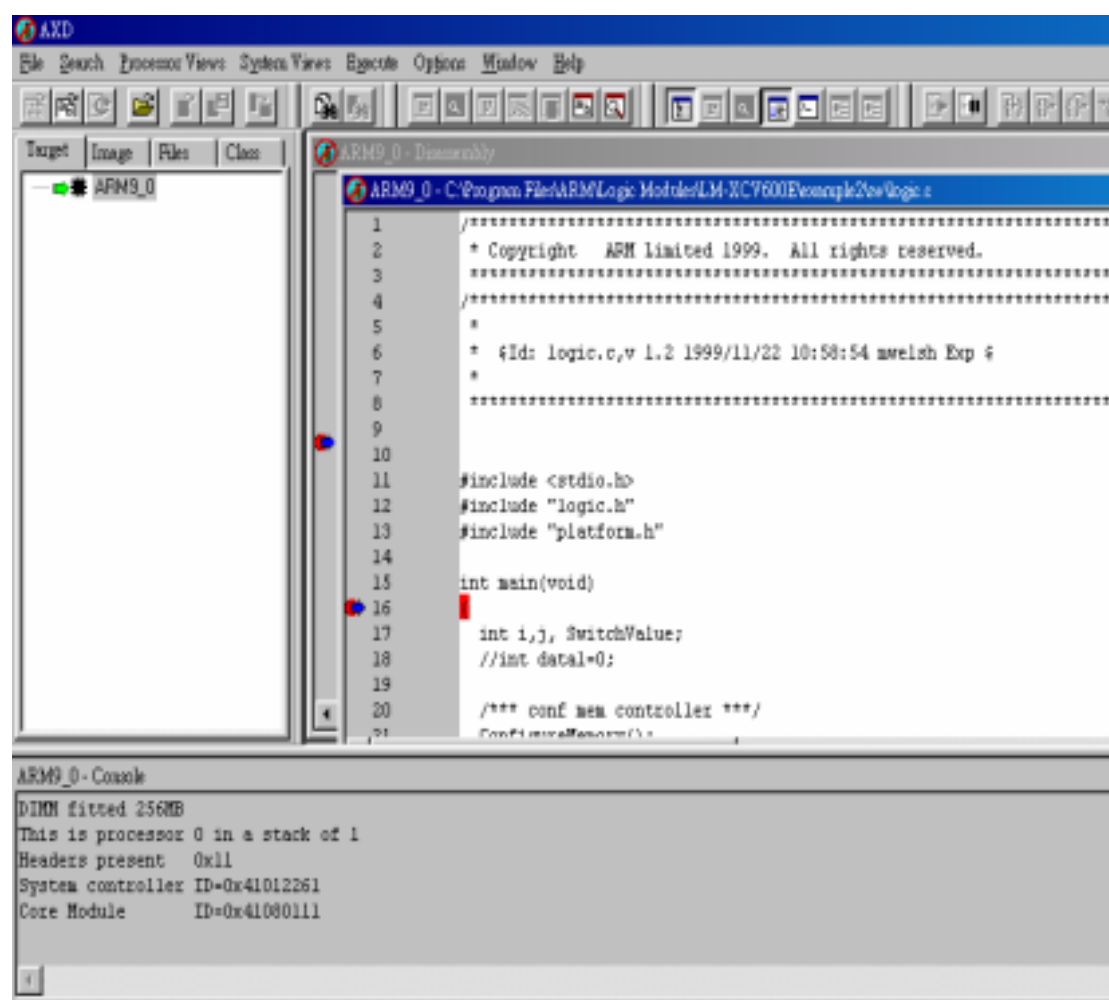

Figure 11 AXD debugger
9. Hit run (Figure 10, the bottom with red circle), then it will start the AXD debugger (Figure 11).